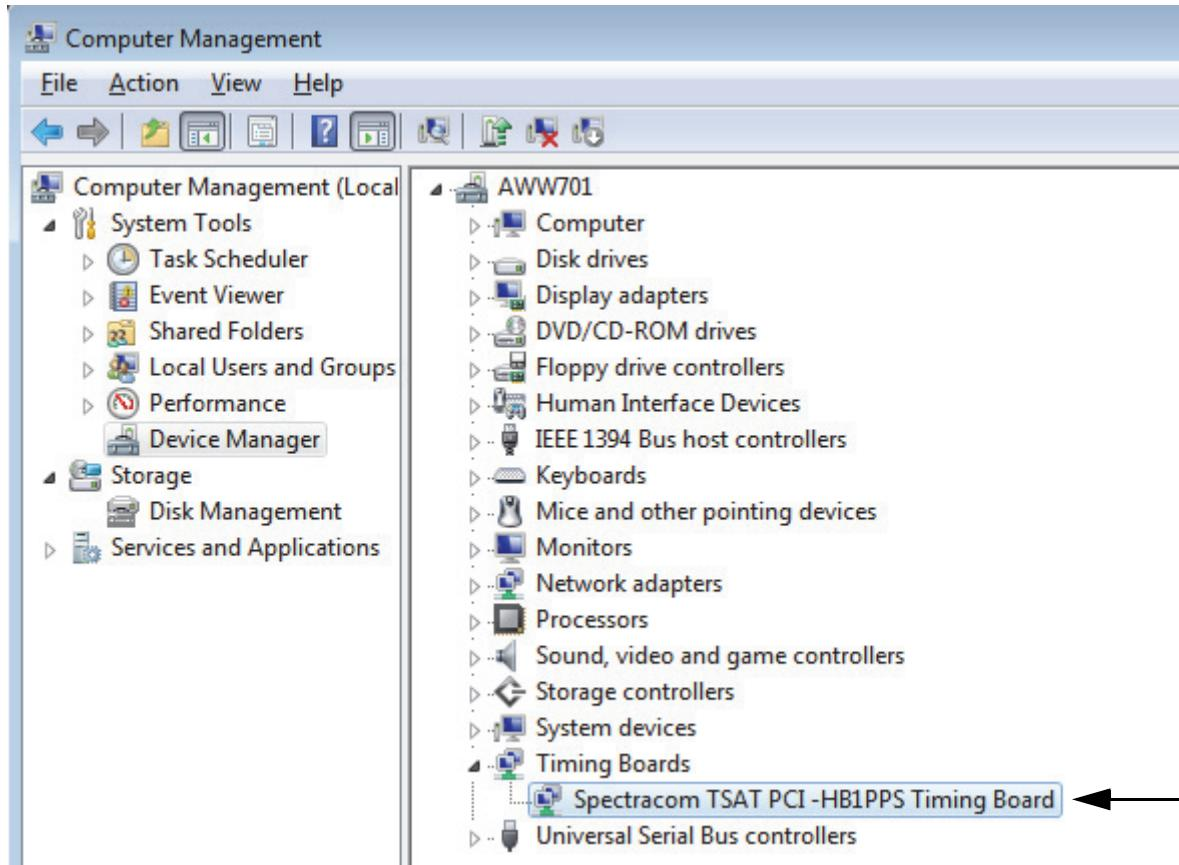

Figure 5-28. Device Manager Timing Boards Window
13. Upon successful completion of the installation, the Spectracom Time Card will appear under Timing Boards in Device Manager screen as shown in Figure 5-28.
While you select the “Spectracom TSAT PCI-FXA Timing Board”, the Device Manager will show “Spectracom TSAT PCI -HB1PPS Timing Board” as shown in Figure 5-28. This is a Spectracom issue - the correct driver was installed for the Spectracom TSAT PCI-FXA Timing Board.